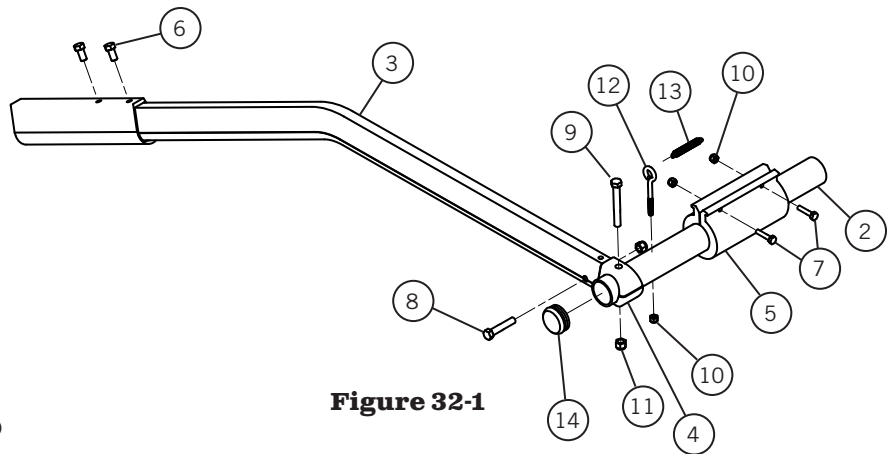
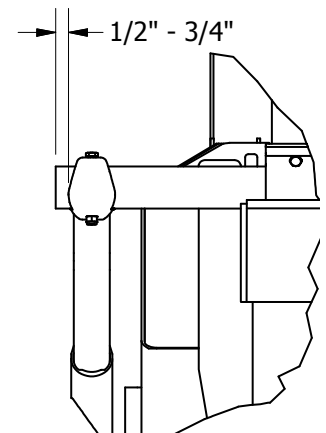
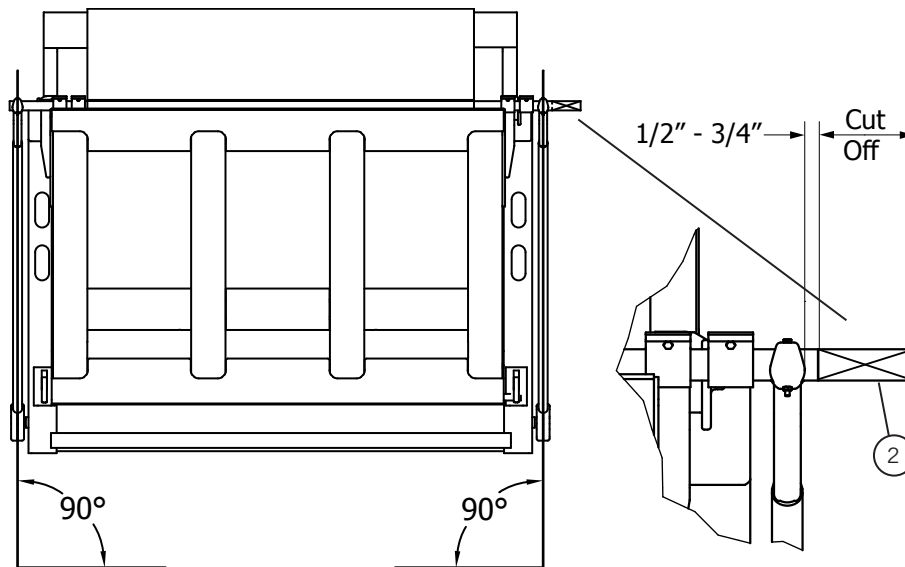

Figure 32-1
Figure 32-2
Figure 33-1
- 1) Figure 32-1.** Insert arm casting (4) into upper swing arm (3) and secure with 3/8-16 x 2 hex bolt (8) and 3/8-16 nylon hex nut (11). Repeat for second arm casting (4) and upper swing arm (3).
- 2) Figure 32-1.** Slide upper swing arm (3) into lower swing arm and insert 3/8-16 x 3/4 hex bolts (6) into the 2 tapped holes of the lower swing arm. Repeat on opposite side.
- 3)** Roll out tarp (1) in bed of truck. Make sure the pocket is at the rear of the truck.
- 4)** Insert cross arm (2) through the pocket in the tarp (1) at the tailgate; center and place on the bed.
- 5)** Insert 1/4-20 x 1 hex bolt (7) into each rubber bumper and attach 1/4-20 nylon hex jam nut (10).
- 6)** Slide 2 rubber bumpers (5) onto each side of the cross arm (2).
- 7)** Lift one swing arm and insert cross arm (2) into arm casting (4). Insert far enough so opposite swing arm can be lifted and inserted through the opposite arm casting (4).
- 8) Figure 32-2.** Adjust cross arm (2) on one side to extend 1/2"-3/4" beyond arm casting (4).
- 9) With the cross arm (2) resting on the tailgate, drill a 1/4" hole through the tube using the hole in the arm casting (4) as a guide. Secure with 3/8-16 x 3" hex bolt (9) and 3/8-16 nylon hex nut (11)
- 10) **Figure 33-1.** Position swing arm to be parallel with the bed. While maintaining that position, slide the opposite swing arm onto the cross arm (2) until it is parallel with the bed.
- 12) **Figure 33-1.** Cut excess cross arm (2) which extends 1/2"-3/4" beyond arm casting (4).
- 13) Insert plug ends (14) into each end of cross arm (2).
- 14) Position one set of rubber bumpers (5) to sit on tailgate and one set to hit end plates of the tarp housing, then tighten bolts.
- OPTIONAL: Figure 32-1.** Use eye bolt and spring to keep tarp centered.